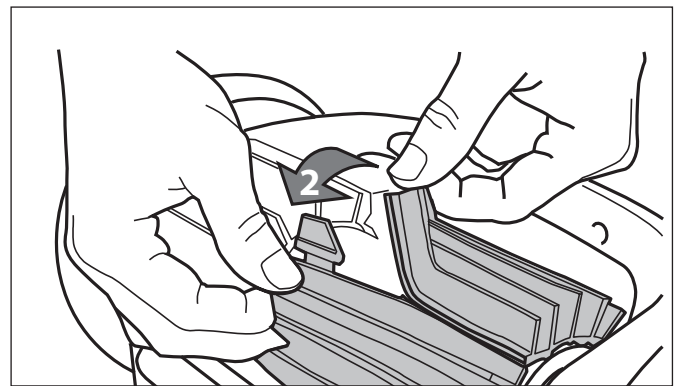

Figure 27. Undo the Tabs of the Brush
- Separate the edges of the brush and undo the tabs (Figure 27). Remove the worn brushes.